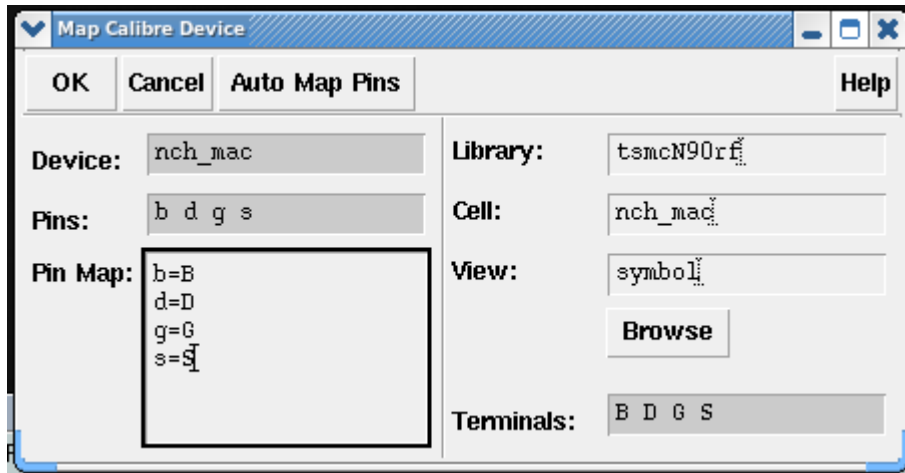

Figure 6: Device Mapping
**When running PEX for the first time (i.e. ./calview.cellmap file is empty):** After clicking OK in Calibre View Setup, another window will pop up, Map Calibre Device, see Figure 6. This window wants you to map device pins from already existing cells in the library.